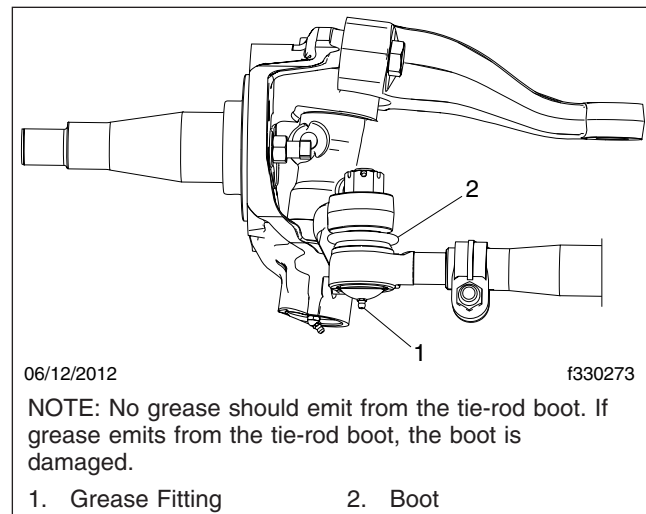

Fig. 4, Grease Fitting and Boot (Detroit axle shown)
1. For any Detroit or Meritor axle that requires lubrication of the tie-rod ends, wipe the grease fittings clean, then pump multipurpose chassis grease, NLGI Grade 1 (6% 12-hydroxy lithium stearate grease) or NLGI Grade 2 (8% 12-hydroxy lithium stearate grease), into the tie-rod ends until all used grease is forced out and fresh grease is seen at the ball stud neck. See Fig. 4.